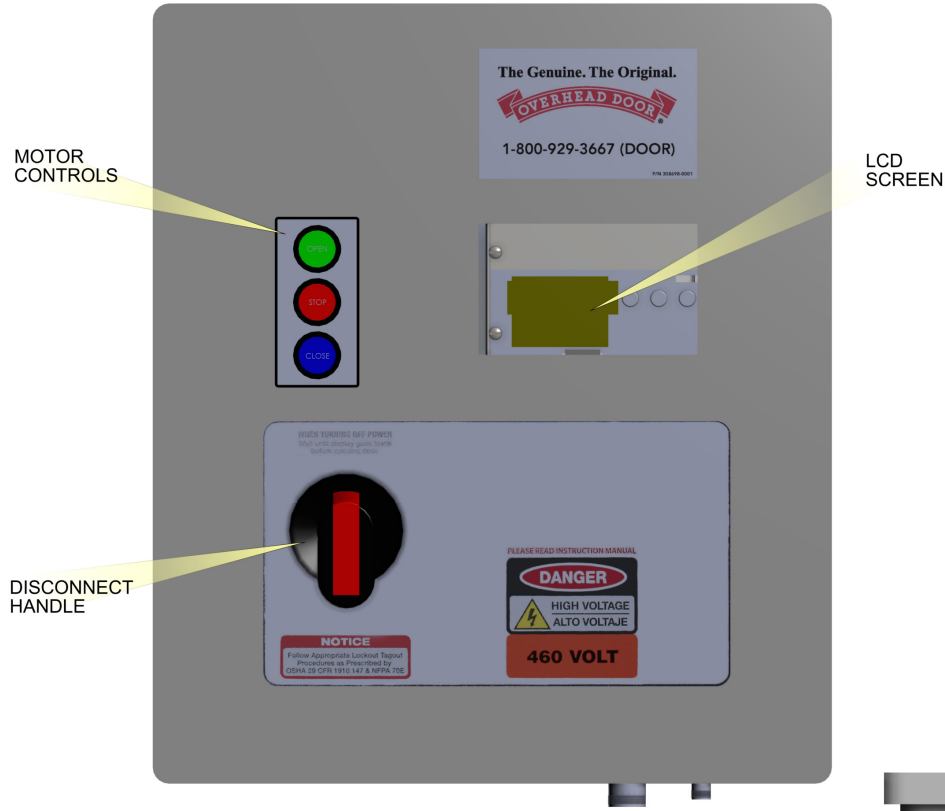

FIG 17 Control Panel Front Cover
1. MAIN COMPONENT OVERVIEW, FIG 17 AND 18